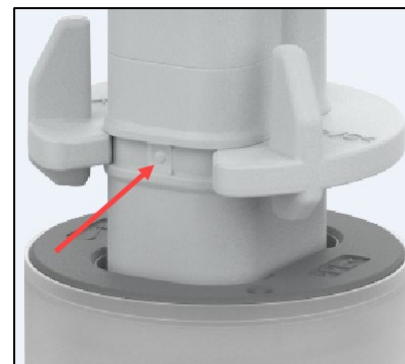

Figure 10
- *Make sure that the snap ring is fitted correctly! The marking on the pipe must be visible at the opening of the snap ring. (see Figure 10)*